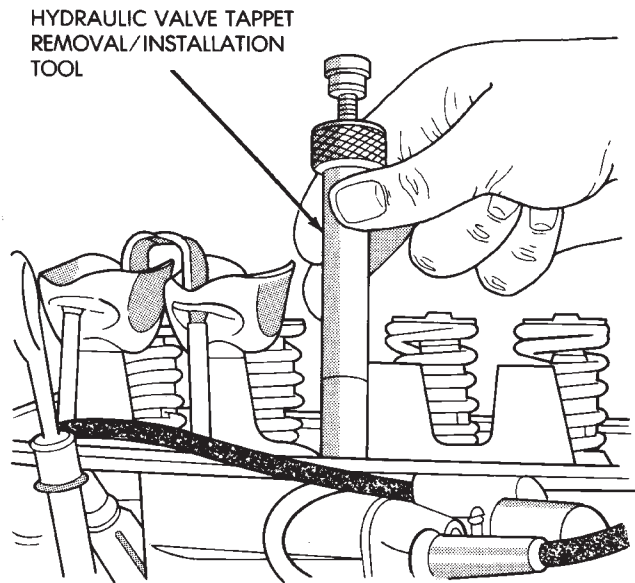

Fig. 11 Hydraulic Valve Tappet Removal/Installation Tool C-4129-A
- (1) Remove the engine cylinder head cover.
- (2) Remove the bridge and pivot assemblies and rocker arms by removing the capscrews at each bridge. Alternately loosen each capscrew, one turn at a time, to avoid damaging the bridges.
- (3) Remove the push rods.
- (4) Remove the intake and engine exhaust manifolds (refer to Group 11, Exhaust System and Intake Manifold for the proper procedure).
- (5) Remove the engine cylinder head and gasket.
- (6) Remove the tappets through the push rod openings in the cylinder block with Hydraulic Valve Tappet Removal/Installation Tool C-4129-A (Fig. 11).